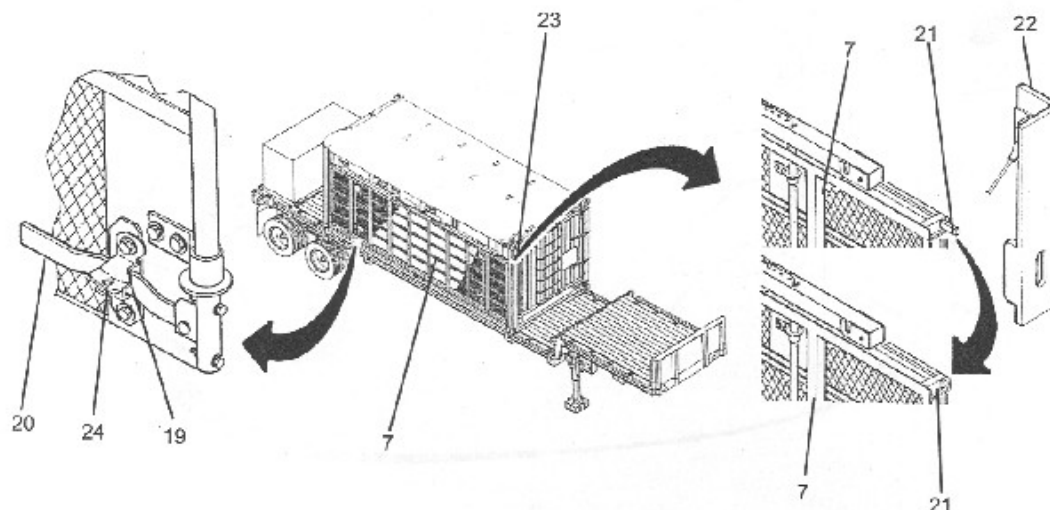

Figure 3-62
(10) Lock platform to ISO frame as follows:
- (d) Repeat step a through c to lock other end of platform. (See Figure 3-62)